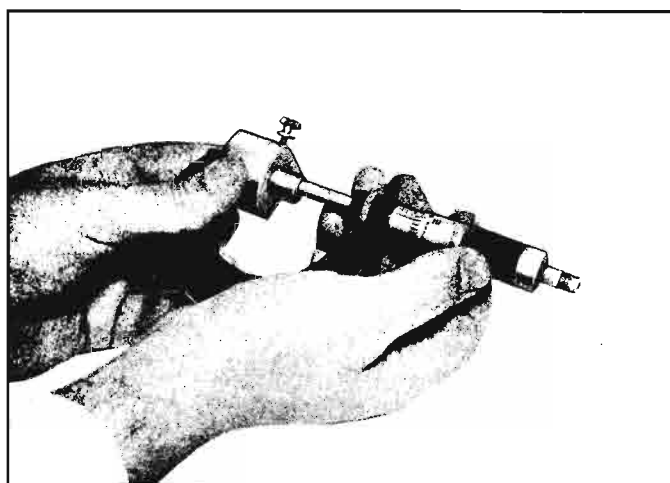

Fig. 6C-20—Measuring Gauge J-6266-19 with Micrometer
- e. Using a 2" micrometer, measure the gauge plunger and record this reading (fig. 6C-20).